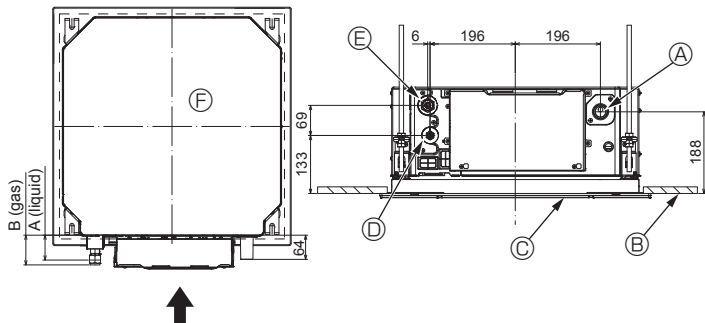

Fig. 5-7
5.4. Refrigerant and drainage piping locations (Fig.5-7)